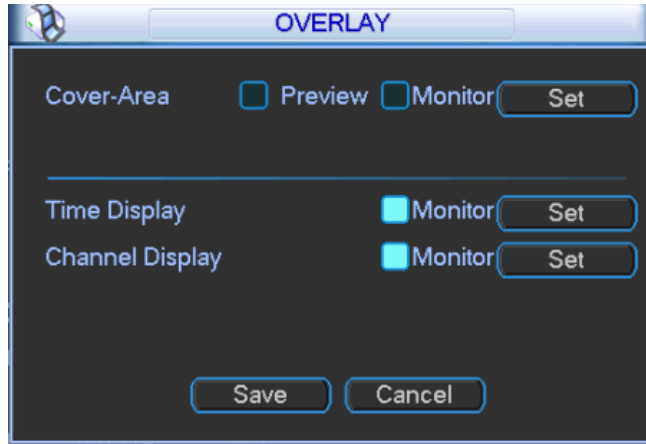

Figure 3-33
Step 1 Click “Overlay”, and the system displays “Overlay” interface, as shown in Figure 3-33.